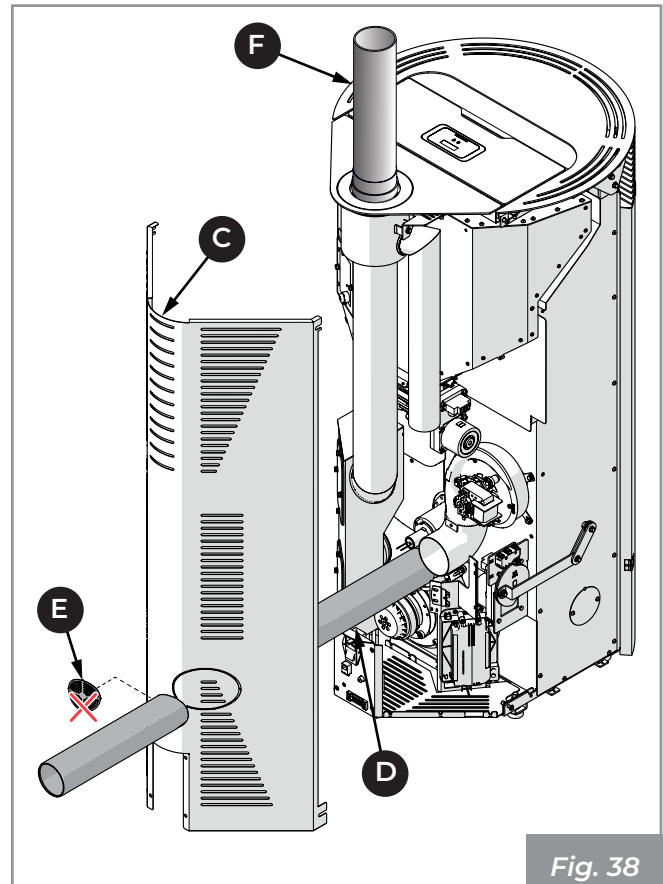

Fig. 38
- Remove the preform (**E**) on the back panel (**C**) and insert the flexible hose (**D**) to connect it to an outside air intake (**Fig. 38**).
- Connect the flue gas outlet pipe (**F**) (**Fig. 38**).